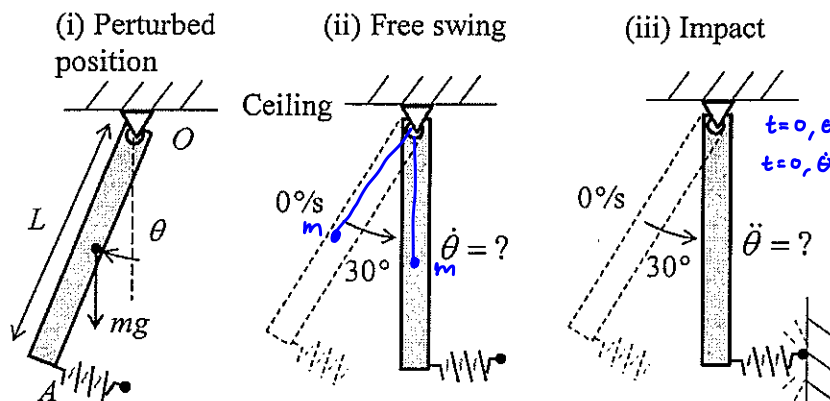

Figure 4
- 3(a) Figure 4 shows a pendulum, which consists of a rod of a mass m and a length L , pivoted at the point O of the ceiling. A spring of axial stiffness k and negligible mass is fixed to the rod next to the free end A .
- (i) Find the natural frequency of this pendulum system, as shown in Figure 4(i).
- (ii) Find the maximum angular velocity that the pendulum attains during its free swing after the release from an initial 30° angular position and a zero initial speed as shown in Figure 4(ii). $\Delta PE \Rightarrow KE$.
- (iii) Derive the expression for the pendulum's angular acceleration upon its contact at 0° onto an adjacent wall after its release from an initial 30° angular position and a zero initial speed as shown in Figure 4(iii).